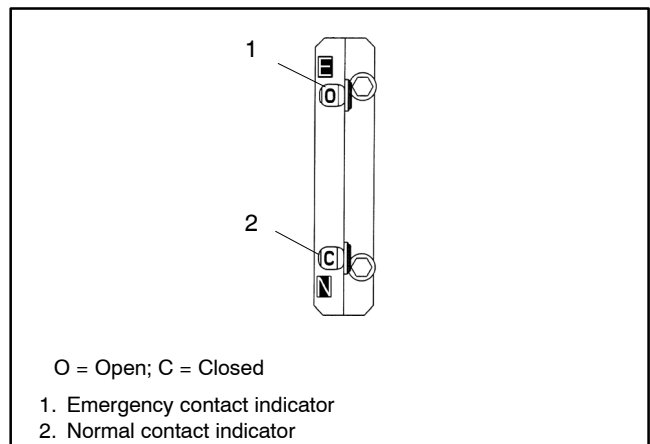

Figure 2-14 Indicators, Model KCC
Position indicators on the right side of the contactor assembly show the positions of the operators. See Figure 2-14.
Refer to Figure 2-14 through Figure 2-16 during the following procedure.
5. Return the Emergency operator to the open position and the Normal operator to the closed position. Observe that the window indicators show the upper shaft **O** (emergency open) and the lower shaft **C** (normal closed). See Figure 2-14.